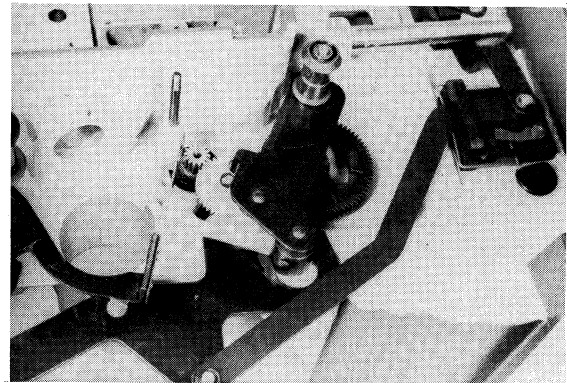

Figure 3-18. LOOP RESET ARM ECCENTRIC ORIENTATION
1. Clean the Oilite Bearing in the Pivot (31) with a cotton swab moistened with Teresso Instrument Oil (39479-P8).
2. Assemble the Kick Spring (26) immediately next to the loop reset gear mounting shaft as shown.
3. Insert a dental pick through the small hole next to the hub of the Loop Reset Gear (24) and push the Kick Spring (26) out of the way so the gear can be pushed onto its shaft. Secure the gear with the "E" Ring (25) (251-7-1).
4. Slide the Pinion (30) into the oilite bearing of the Pivot (31) and assemble the Pulley (28) allowing for .001" to .007" end play. Tighten Set Screws (29).
5. Slide the Arm Complete (22) into its mounting hole in the main casting and secure it in place with the "E" Ring (23). (A set of surgical hemostats are very helpful for holding this "E" Ring during installation.)
7. Move the Master Control Lever to the LOAD position and observe that the cradle in the end of the arm link traps the Loop Reset Arm Eccentric so the Reset Arm is neither forced up by the cradle nor able to be pushed up with the cradle in place (Figure 3-18).